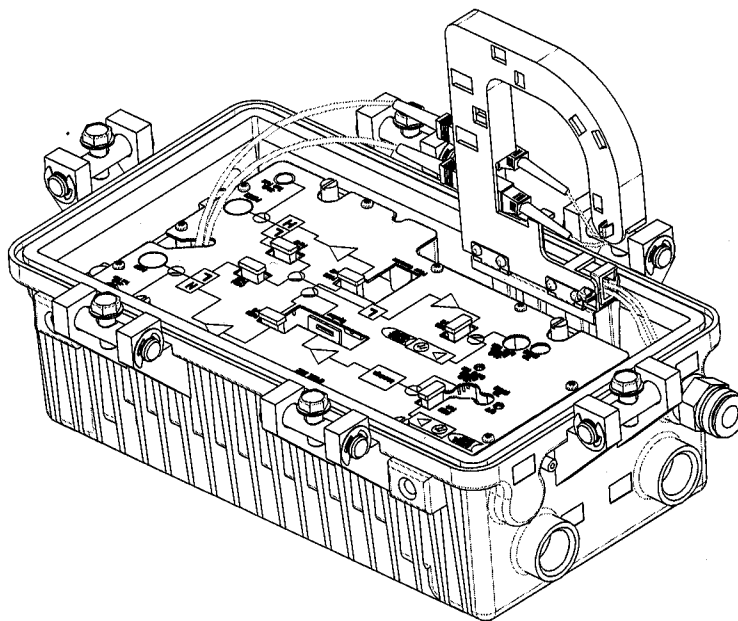

Figure 4-3 Fiber tray and carriage
5. Pull up on the fiber tray carriage and open the fiber tray as illustrated in Figure 4-3: